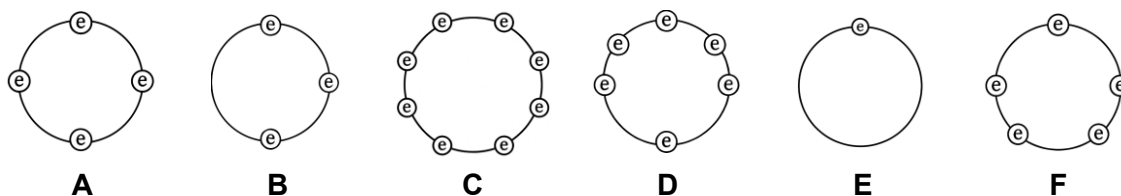

Fig. 1.1
- 1** Fig. 1.1 shows the electron arrangement of six elements from Period 3 of the Periodic Table. The elements are represented by the letters, **A**, **B**, **C**, **D**, **E** and **F**.